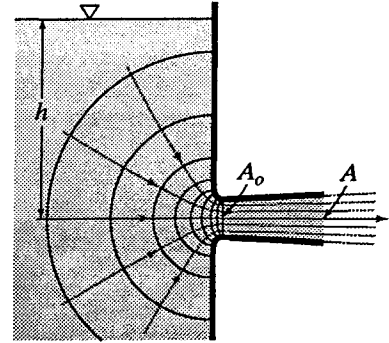

Figure X11.6.5
- 11.6.9 Given that the diverging tube shown in Fig. X11.6.5 has $A = 1.75A_o$. If it is operating at 1000 m elevation under standard atmospheric conditions, what will be the maximum value of h for which the tube will flow full?